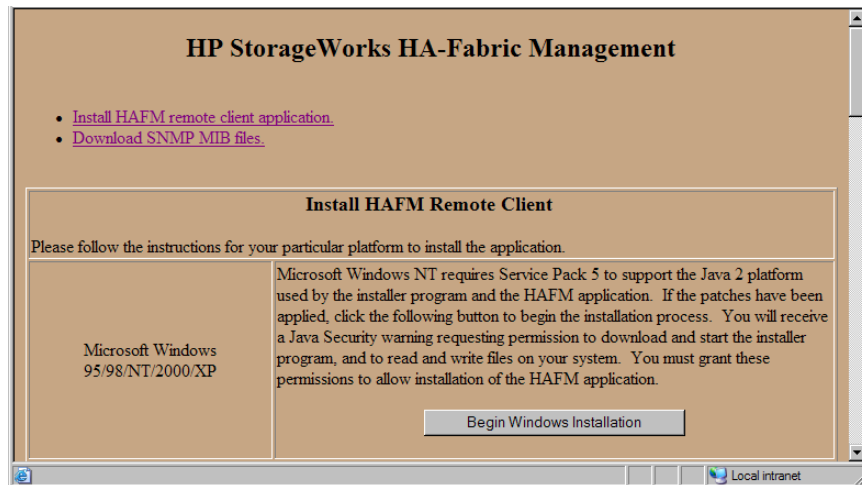

Figure 43: HAFM remote client install
4. The HAFM splash screen displays with the following options, see Figure 43.